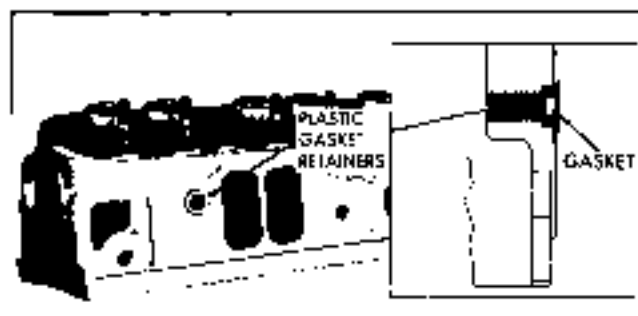

Fig. 6-78 Intake Manifold Gasket Retainers
1. Install new gaskets on cylinder heads, positioning them with plastic retainers (Fig. 6-78).